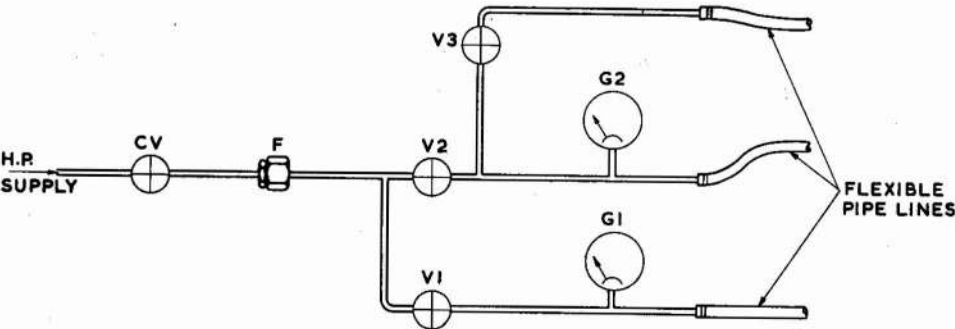

Fig. 1. Basic test rig
3. Referring to fig. 1, a pressure and leak tester is also required which consists of the following:—